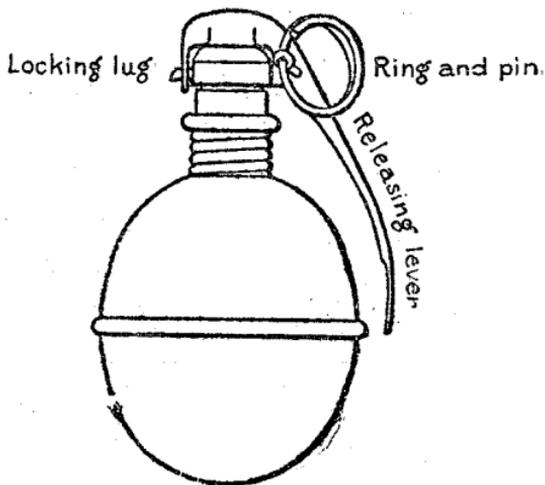

FIG. 70.—*O F* grenade with automatic primer.
(4) the *suffocating, model 1916*; (5) the *A B 1916* (incendiary, smoke producing, fuse); (6) the rifle *V B* (fuse); (7) the rifle *D R* (percussion).
**First. Grenade O F 1915.**—Fuse grenade, for offensive action. Composition metal, ovoid envelope 0.118 inch thick, filled with 5 ounces, 127 grains of cheddite. (Fig. 70.) Automatic or metal priming cap.